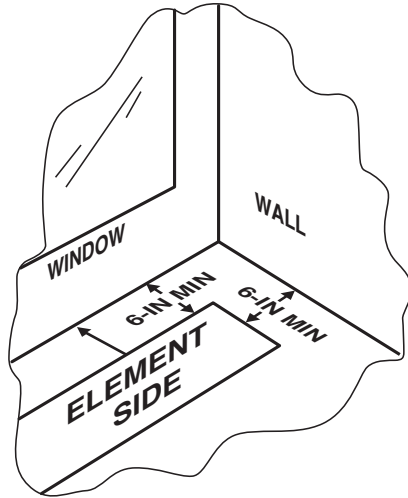

Figure 9: Installation Location
2. All sides of the heater must have 6" of clearance to wall, minimum. Note: element side of heater is intended to be closest to the window. See figure 9.
- All sides of the heater must have 6" of clearance to wall, minimum. **Note:** element side of heater is intended to be closest to the window. See figure 9.
2. All sides of the heater must have 6" of clearance to wall, minimum. **Note:** element side of heater is intended to be closest to the window. See figure 9.